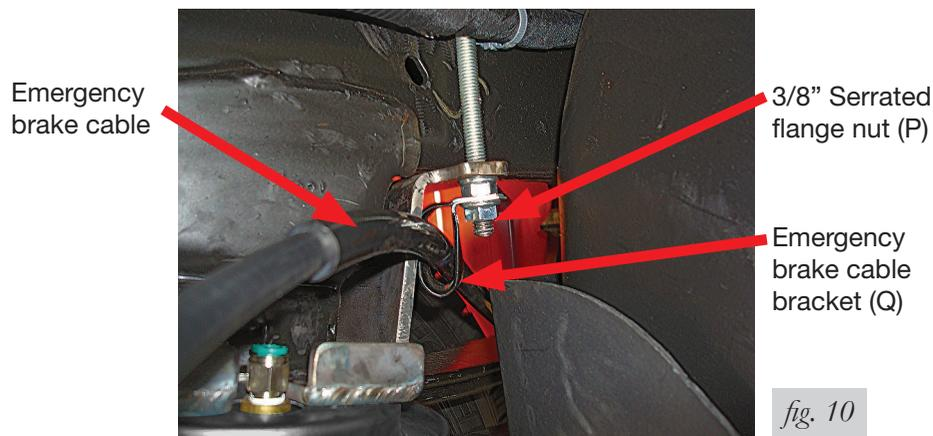

fig. 10
1. Attach the emergency brake cable removed in the "Getting Started" section with the emergency brake cable bracket (Q) and 3/8" serrated flange lock nut (P) (Fig. 10). Use the inside forward leg of the U-bolt on the driver's side for the attachment. Tighten securely.